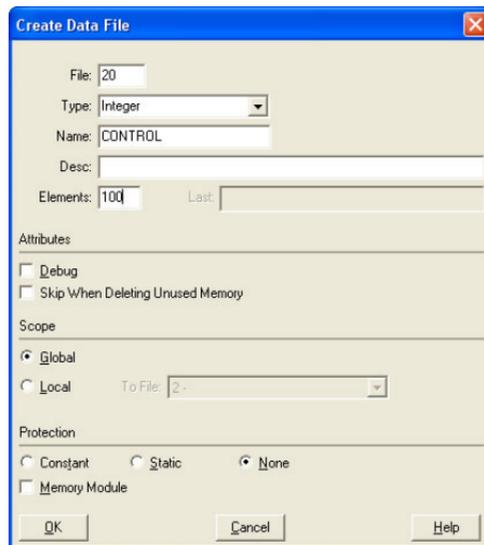

Figure 108: Creating a Control File
- a) Right click Data Files and select New... The “Create Data File” dialog box appears (refer to Figure 108).